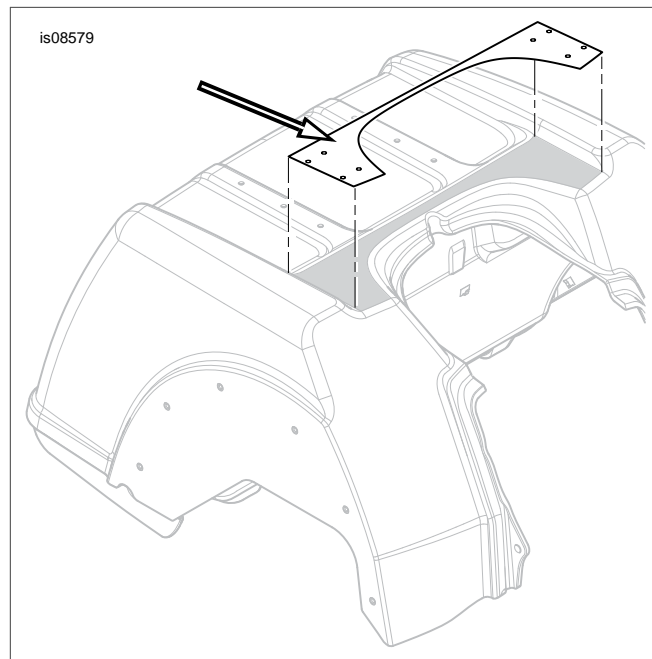
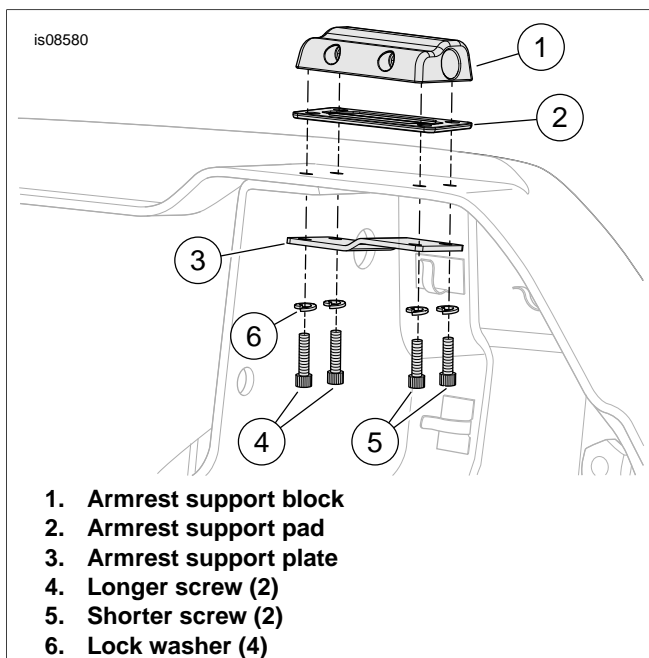
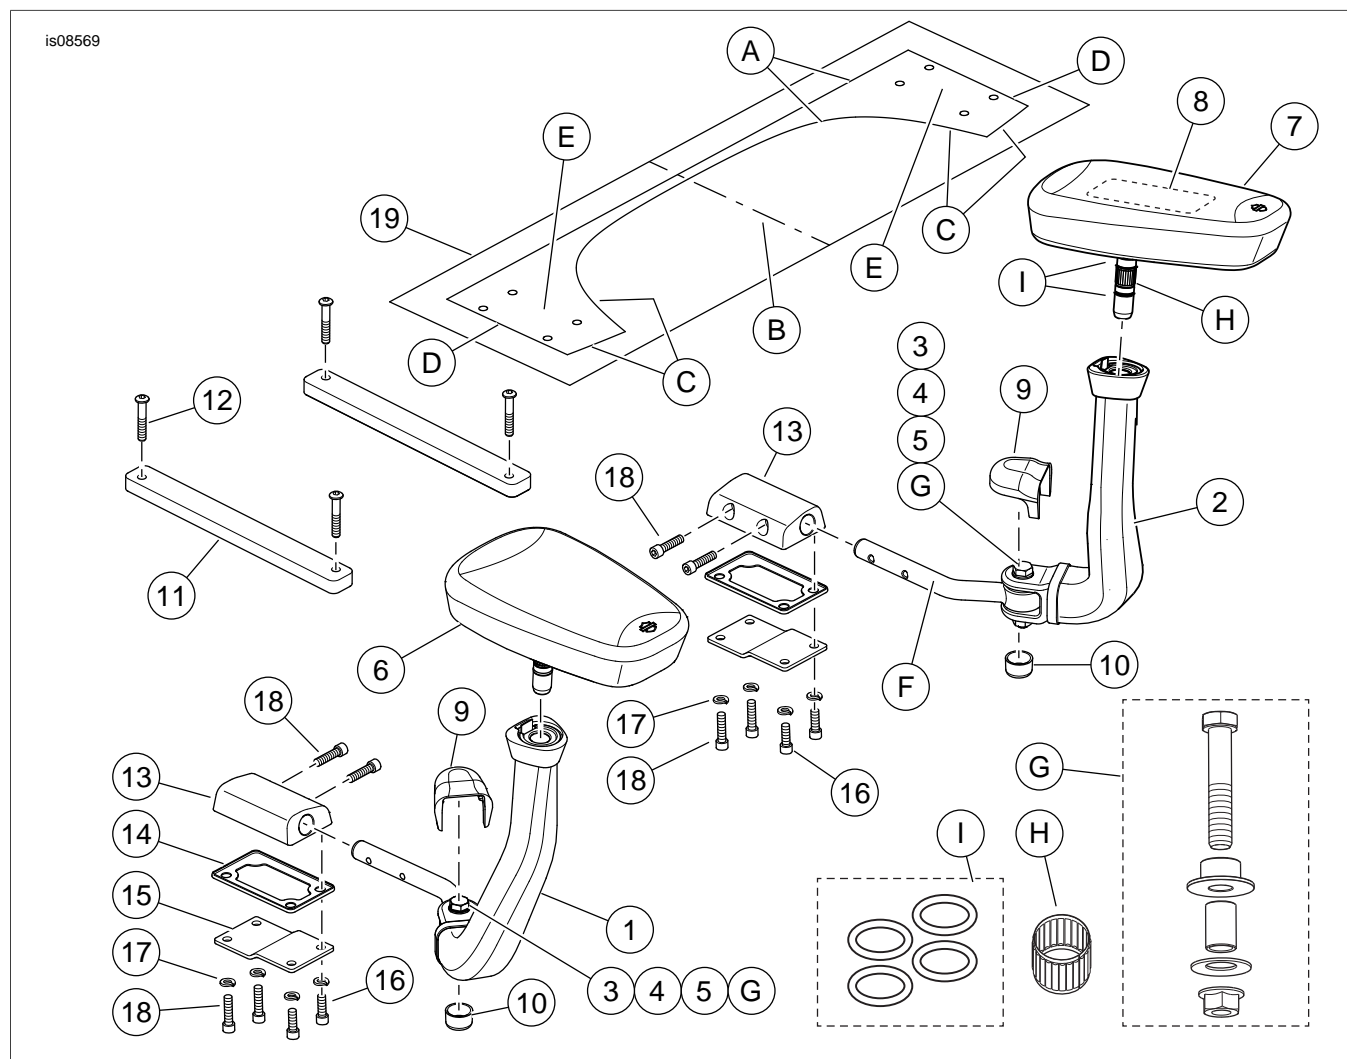

Figure 1. Armrest Support Drilling Template
Figure 2. Armrest Support Block Installation
Figure 3. Service Parts, Trike Passenger Armrest Kit
See Figure 3 and Table 1.
2. **ALL models:** See Figure 3. Get the armrest support drilling template (19) from the kit. Cut out the template along the black outline (A). See Figure 1. Place the template on the top front of the vehicle body, aligning with body contours.
- a. See Figure 3. Align the template centerline (B) with the seat mounting screw threaded hole.
- b. Align the template forward edges (C) along the body downward curves.
- c. Align the template sides (D) between the body upward curves.
7. See Figure 3. Assemble an armrest support block (13) and pad (14). Place the assembly onto the vehicle body with the two side holes facing the vehicle center. Align the four mounting holes.
8. Get an armrest support plate (15), two short screws (16), two long screws (18) and four split lockwashers (17) from the kit. Slide a lockwasher onto the threads of each screw.
10. See Figure 2. Place the armrest support plate (3) on the underside of the body in the orientation shown, aligning the holes.
11. Using the longer screws (4) at the rear, fasten the armrest support block (1), pad (2) and plate (3) to the body. Tighten to 120 **in-lbs** (13.6 N-m).
- f. See Figure 3. Place two armrest support adapter plates (11) on the Tour-Pak mounting rack. Align the four holes.
- g. Get four long button head cap screws (12) from the kit. Insert the screws through the ground plate, Tour-Pak bottom and armrest support adapter plates. Thread the screws into the nuts on the underside of the Tour-Pak mounting bracket.